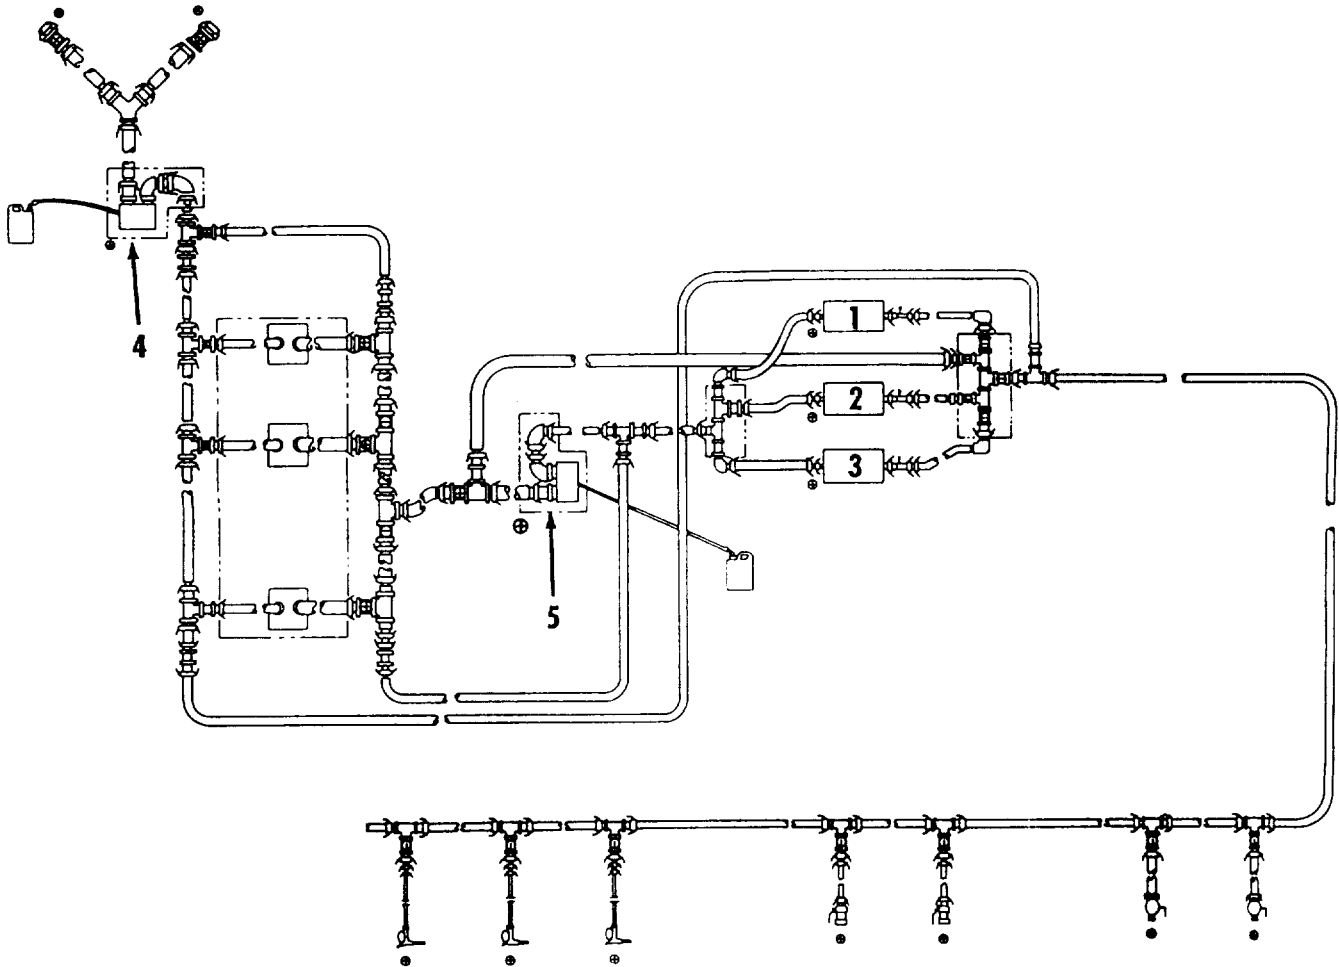

Figure 2-41. Fuel System Shutdown.
h. Fuel System Shutdown. Refer to figure 2-41.
- (1) Shut down filter separators (1, 2 and 3). Refer to **TM 10-4330-236-13**.
- (2) Shut down primary 600 GPM pump (4) and secondary 600 GPM pump (5). Refer to **TM 10-4320-342-10**.
- (3) Close all valves.